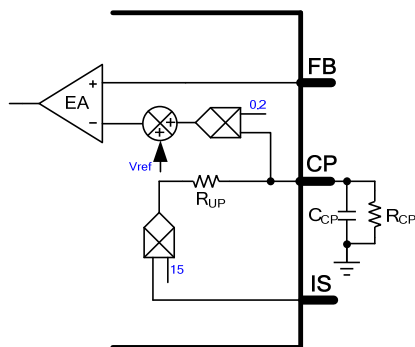

Figure 10: Cable Drop Compensation
As described in Figure 10, the CP voltage is proportional to the IS voltage. The IS voltage increases 15 times on CP. Then the voltage on CP is multiplied by 0.2 and is added to V_{REF} (typically 1V) to compare with V_{FB} . One 1 μ F ceramic capacitor is recommended on CP. The CP voltage can be adjusted by connecting a resistor to CP. Calculate the CP voltage with Equation (17):